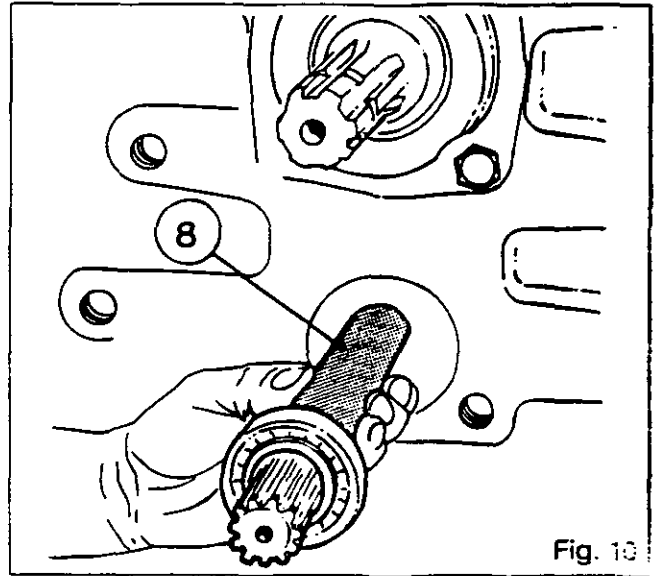

Fig. 10
41. Fit the shaft assembly (8) (Fig. 10) and circlip (4) in the housing.